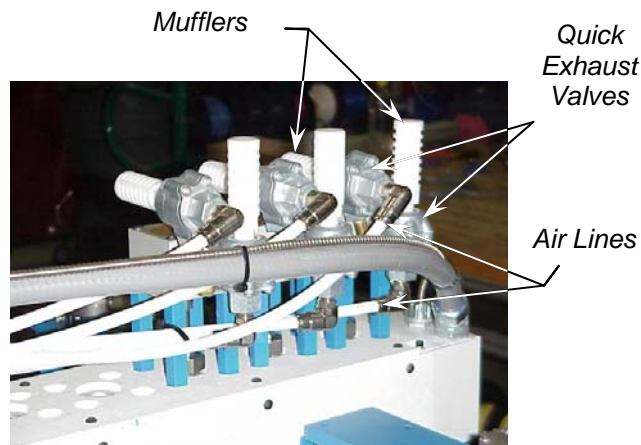

Figure 1
9. Remove the air lines and mufflers (200-0514) from the air cylinder assembly (3-11645). See Figure 1 below.
13. Remove the quick exhausts and air fittings from the air cylinder and set aside. See Figure 1